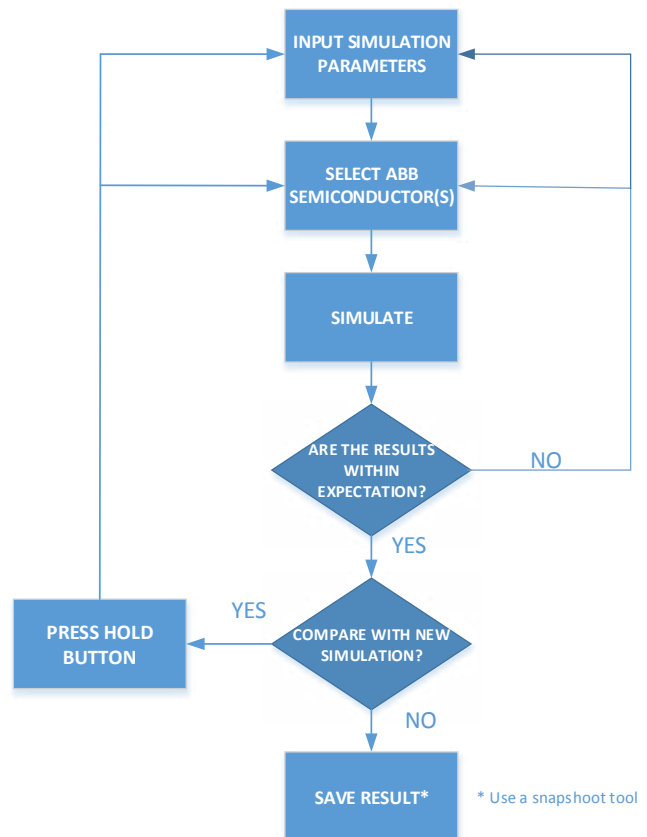

Figure 6: SEMIS functional flowchart
SEMIS provides to the user a number of inputs for setting the conditions of the simulation similar to the actual application as shown in Figure 1. Electrical values for the load and control parameters for the switching of the semiconductor elements are such examples. The system designer can set optionally a desired Real Power or phase current rating as well as a Power Factor (PF) for the load on the AC side. For the control part, different Pulse Width Modulation (PWM) strategies are provided. The selection is done easily by clicking the various sections on the circuit and filling in the fields. The semiconductor selection is short listed depending on the selected blocking voltage rating and desired electrical configuration (e.g. single switch etc.). Figure 6 shows a functional flowchart of SEMIS.